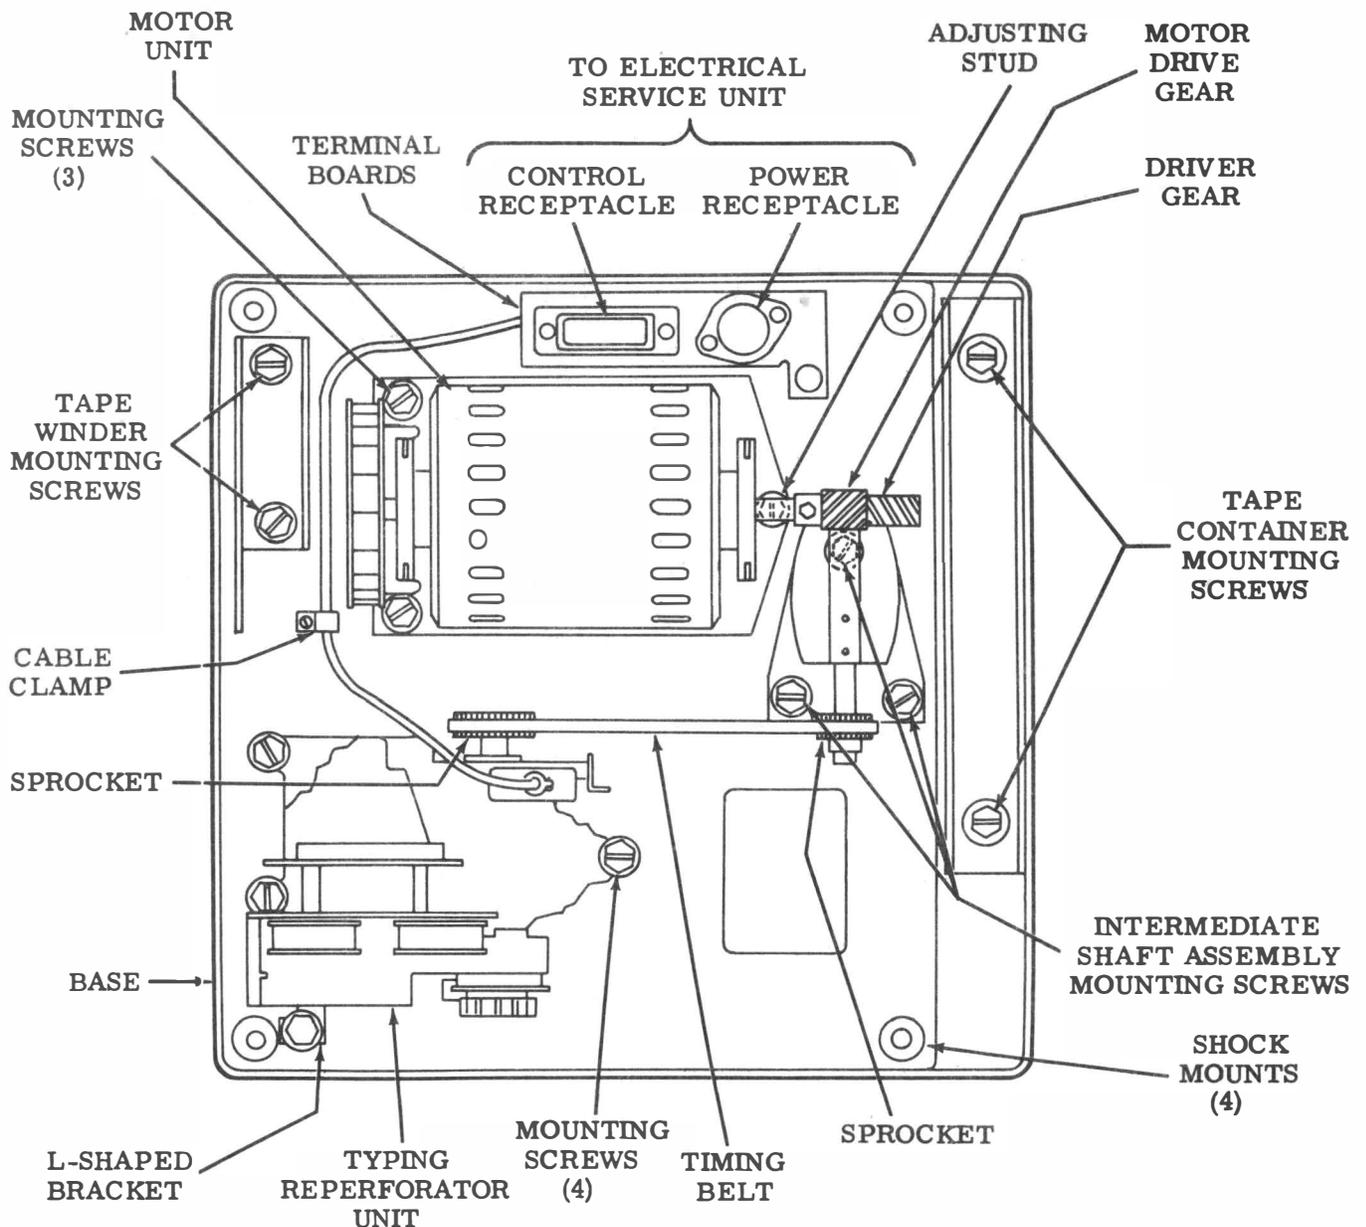

Figure 3 - 35 ROTR Set, Top View, Cover Removed
3.05 Locate the proper driver gear and install it loosely on the hub (counterbored holes away from the hub) with the supplied hardware (Figure 3).
3.08 Select the motor mounting stud and install it loosely into the motor mounting post nearest the intermediate shaft (Figure 3).
3.09 Install the adjusting bracket on the gear end of the motor unit with the hardware furnished. The center hole in the bracket should extend beyond the motor mounting plate. See Figure 3.
3.14 Loosen the screw holding the L-shaped bracket to the left-front of the typing reperforator unit (Figure 3).
3.20 Loosen the three screws which hold the intermediate shaft assembly to the base. Place the timing belt (from the bag of parts) over the sprockets on the intermediate shaft assembly and typing reperforator unit (Figure 3). Take up slack in the belt by moving the intermediate shaft assembly away from the motor unit. The belt should have just enough slack so
the motor mounting post under the gear end of the motor unit (Figure 3).